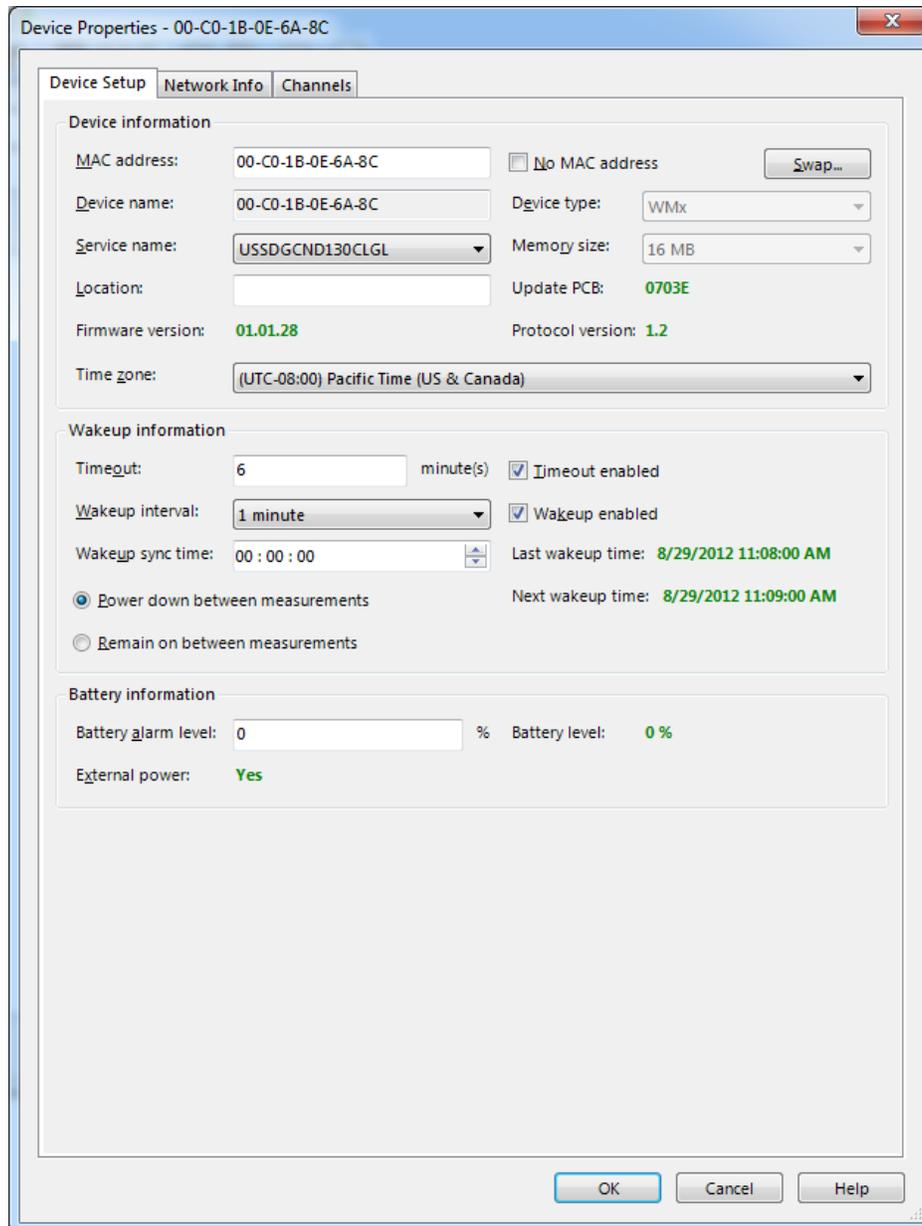

Figure 16. Device Properties window
1. Select a WMx device from the list, and then click **Edit**. The Device Properties window [Figure 16] will be displayed. This window provides the settings of the selected device.